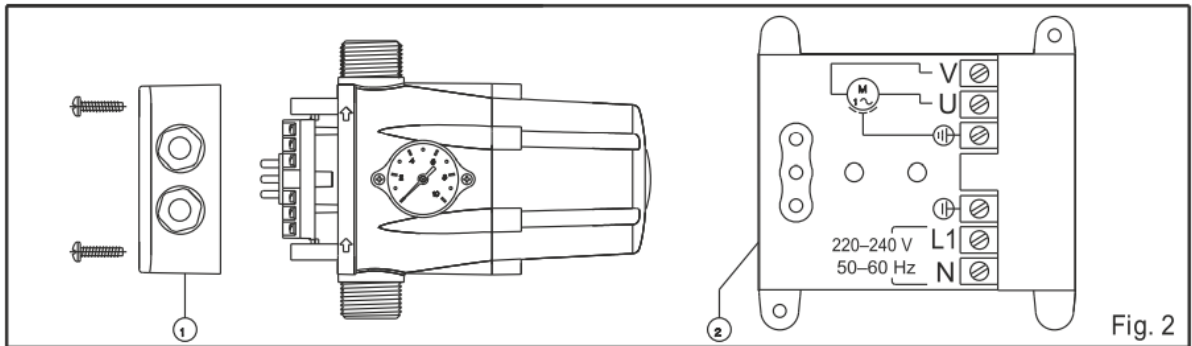

Fig. 2
Elektrisk installation: (fig.2)
- Felaktig el-installation, kontrollera inkopplingen, se fig.2